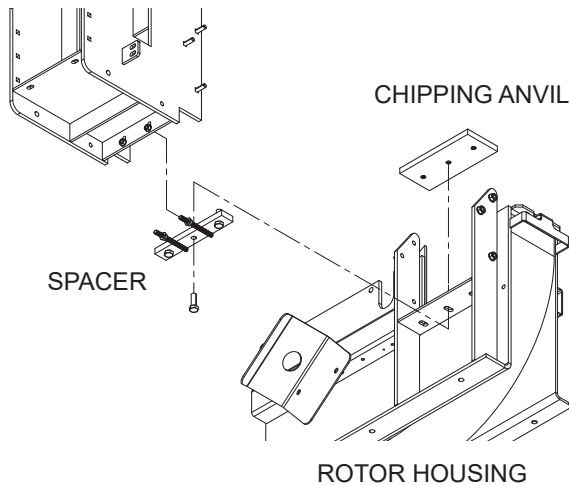

Figure 5.4, Chipping Anvil Location
1. Open access cover (see Section 5.3) to allow access to anvil. See Figure 5.4 for anvil location.